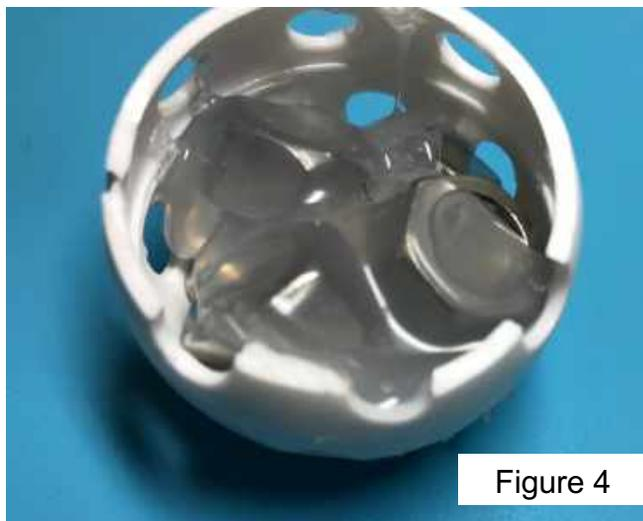

Figure 4
4. Squirt enough hot glue into Wiffle ball to coat hex nuts (*figure 3*). This prevents hex nuts from moving. *Figure 4* is for illustration purpose only to show hex nuts covered with glue – DO NOT cut your ball as shown.